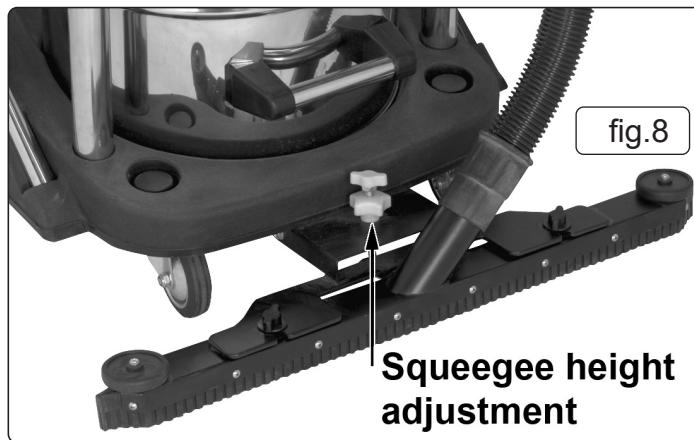

fig.7
- 5.1.4. The crevice tool is used on narrow grooves or windows. Refer to Fig. 7.